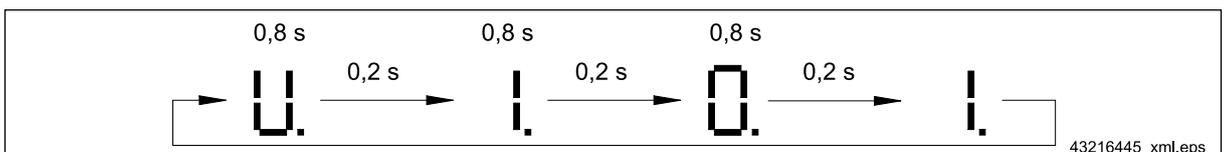

Fig. 9
- Software version ⇒ Fig. 9, Page 31,